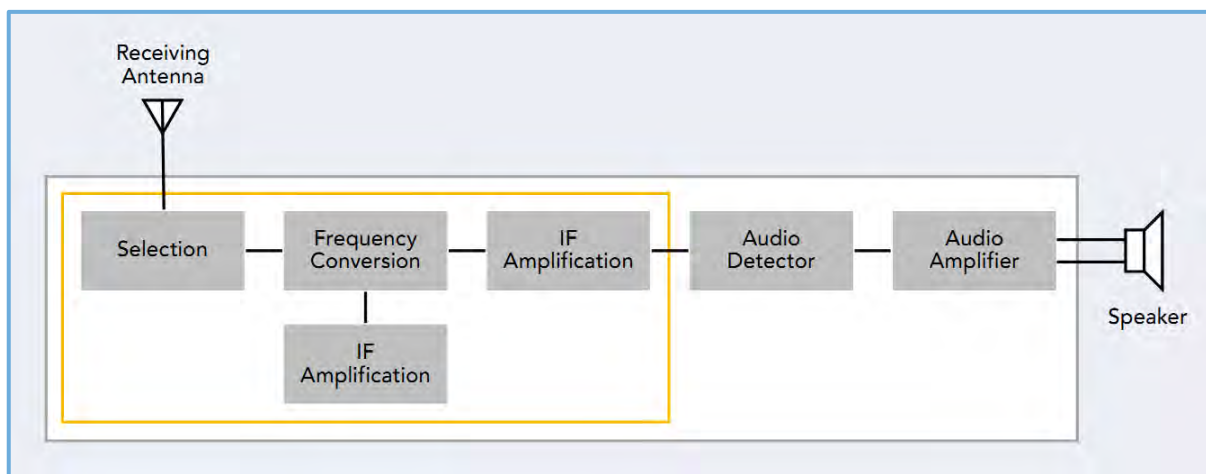

Figure 6-4: Receiver with Selection and IF sections outlined in orange
The intermediate frequency (IF) and selection stages are responsible for filtering the desired signal from the unwanted signals brought in by the receiving antenna, separating (or demodulating) the data (audio, data, or a combination) from the RF carrier, and presenting the data to the next stage for further processing. This stage is outlined in orange in **Figure 6-4**.